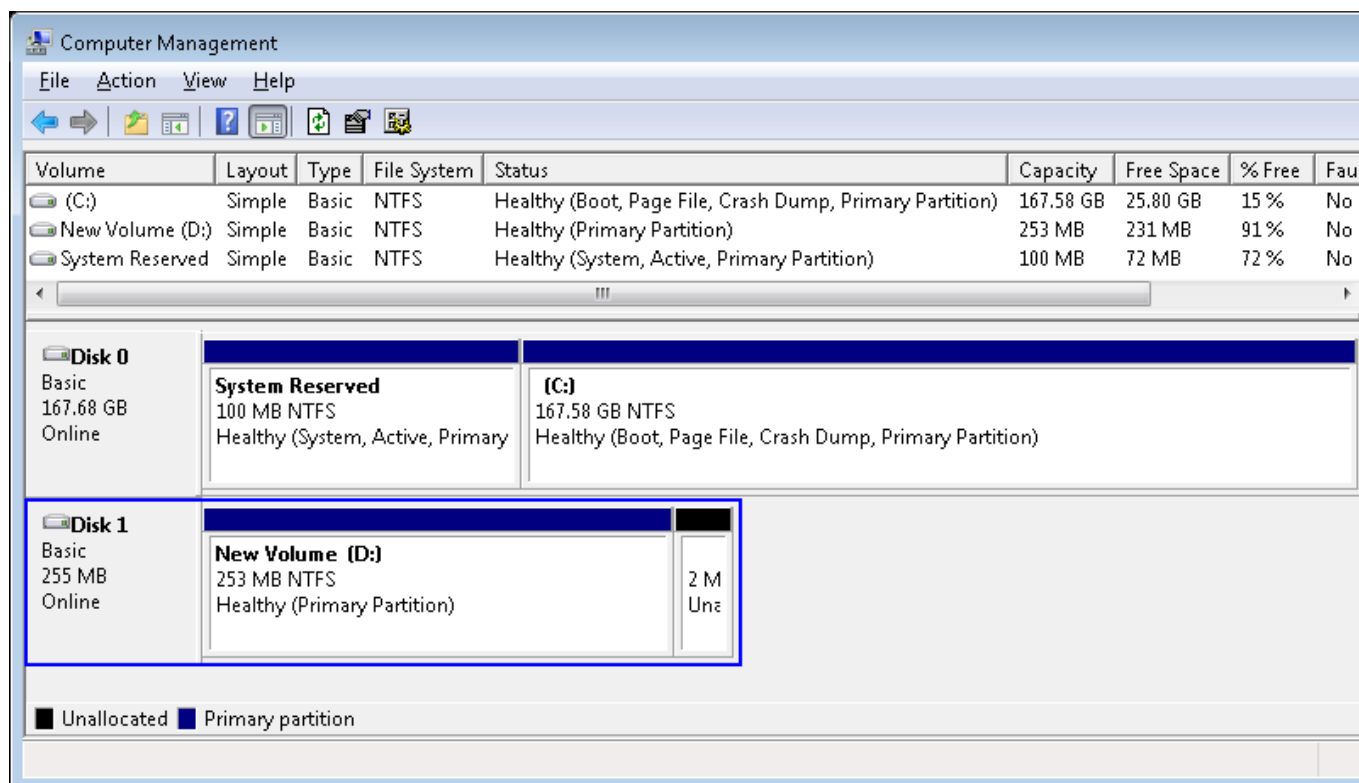

Figure 3-6 Format Complete
- Wait until format completed, new drive is ready to use, as shown in Figure 3-6.